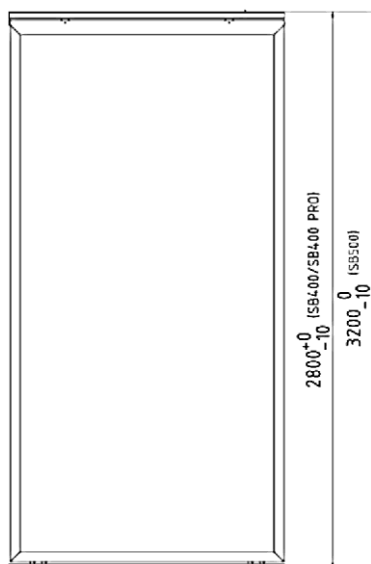

Fig. 1.
1. Verify the trueness to level of the top substructure for the top guide rail. The maximum vertical clearance between the substructure surfaces for the top guide rail and the bottom rail cannot be higher than 3200 mm (Fig. 1).